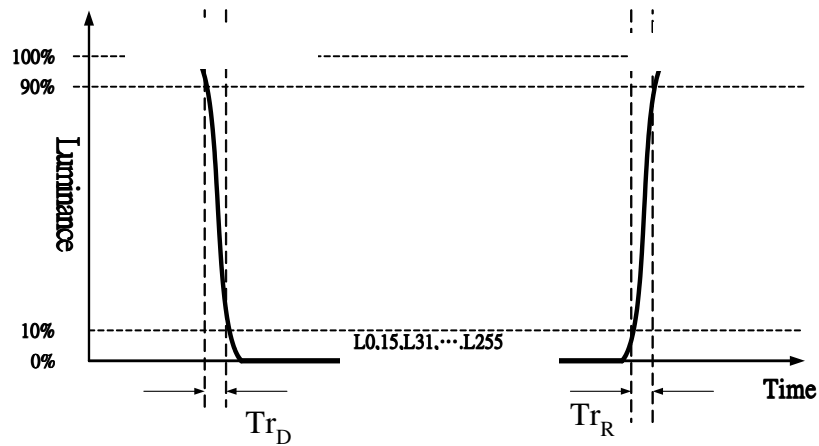

Fig.4-4 Response time
5. The response time is defined as the following figure and shall be measured by switching the input signal for 0, 63, 127, 191, 255 different gray level. For additional information see Fig. 4-4.